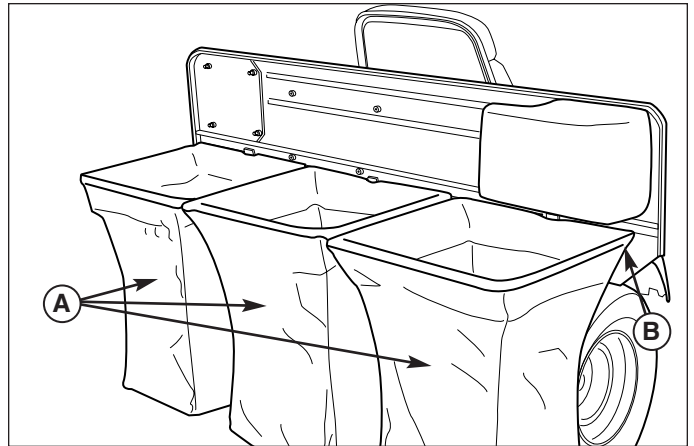

Figure 6. Bags
3. Hook the bags (A, Figure 6) on the back plate(B).